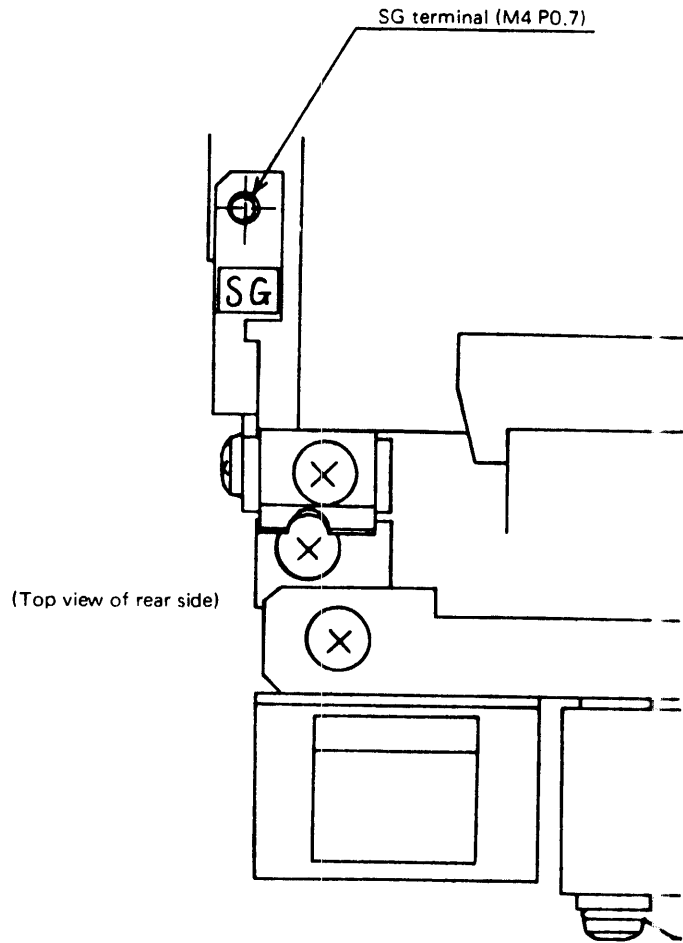

Figure 3-6-7 SG Terminal
- (1) This drive unit is uniformly grounded at the signal ground (SG) connector. If FG and SG connection is required on the system, use the SG tap at the back of the unit, shown in Figure 3-6-7. The optional AC fan unit (B03B-4740-E002A) is grounded at the FG (Frame ground) connector, the SG (Signal ground) is separated from the FG (Frame ground) with insulating bushings. When using the optional D.C. Fan unit, both the fan and the drive chassis are at Signal Ground (SG). A grounding cable may be connected as shown in Figure 3-6-8, if it is required.
- (2) The FG and SG terminals are provided with the optional power supply unit. Connecting or disconnecting FG and SG on the power supply unit can be performed according to system power distribution and system ground requirements.